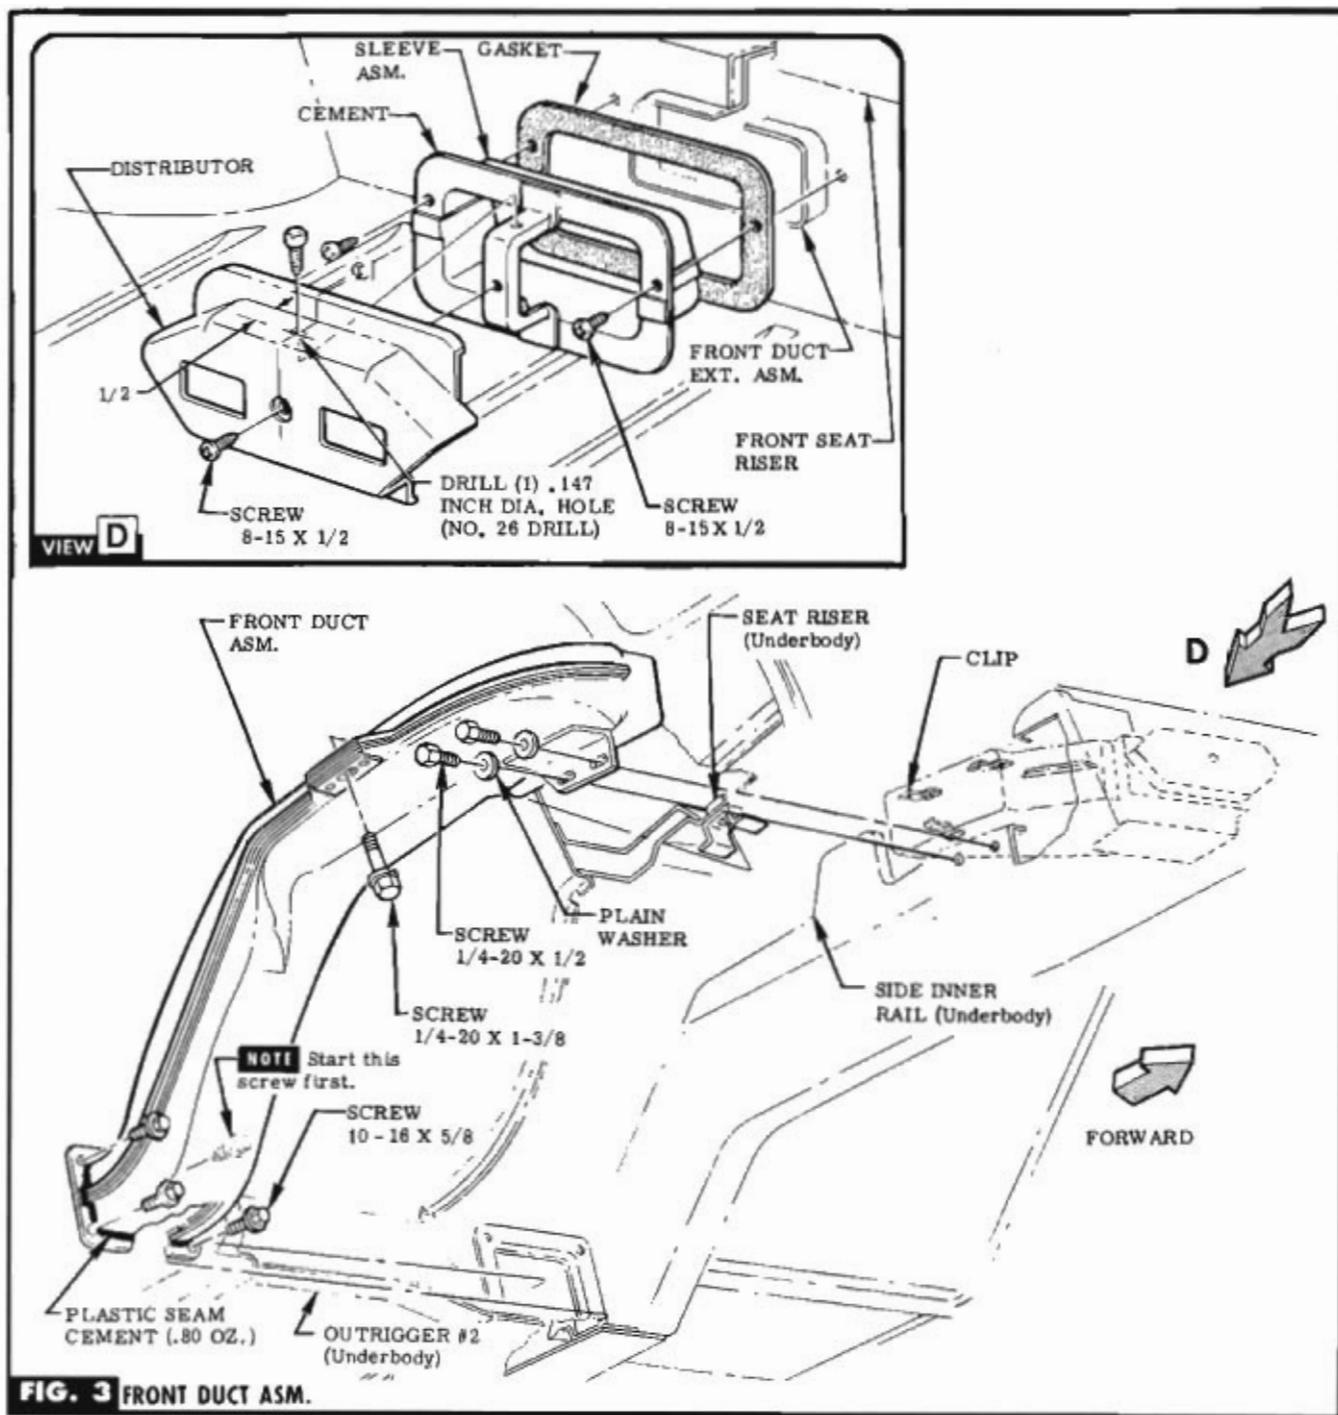

FIG. 3 FRONT DUCT ASM.
STEP 18 SLIDE FRONT DUCT THRU OPENING IN SIDE INNER RAIL & ONTO CLIPS OF FRONT DUCT EXTENSION & ATTACH WITH SCREWS & WASHERS (IN BAG B). SEE FIG. 3.
STEP 19 ALIGN FRONT DUCT TO OPENING IN OUTRIGGER #2 & ATTACH WITH SCREWS (IN BAG B). ATTACH FRONT DUCT TO SEAT RISER WITH SCREW (IN BAG B). CEMENT ALL AROUND JOINT OPENING ON FRONT DUCT ASM. SEE FIG. 3.